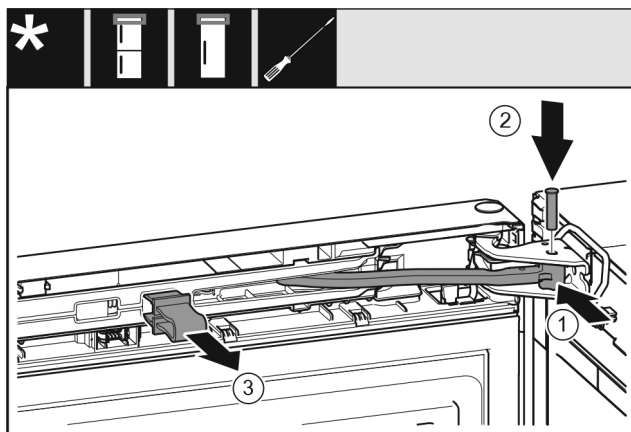

Fig. 47
- ▶ Turn the joint Fig. 47 (1) in the swap bearing block.
- ▶ Insert the pin Fig. 47 (2) into the swap bearing block and joint. In the process, make sure that the latching cam is correctly positioned in the groove.
- ▶ Remove the locking device Fig. 47 (3).